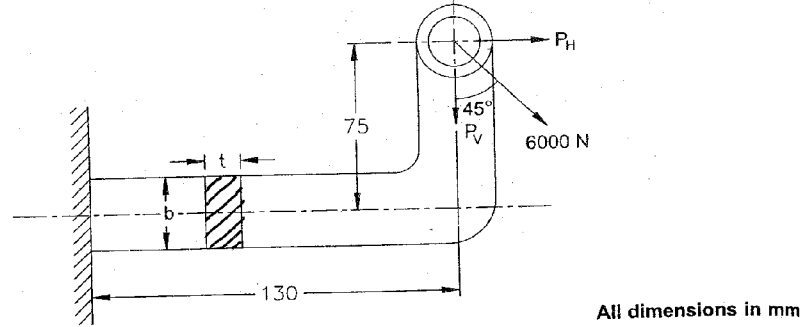

Fig.1
- (ii) A mild steel bracket as shown in figure 1 is subjected to a pull of 6000 N acting at  $45^\circ$  to the horizontal axis. the bracket has a rectangular section whose depth is twice the thickness. Find the cross-sectional dimensions of the bracket, if the permissible stress in the material of the bracket is limited to 650 MPa.